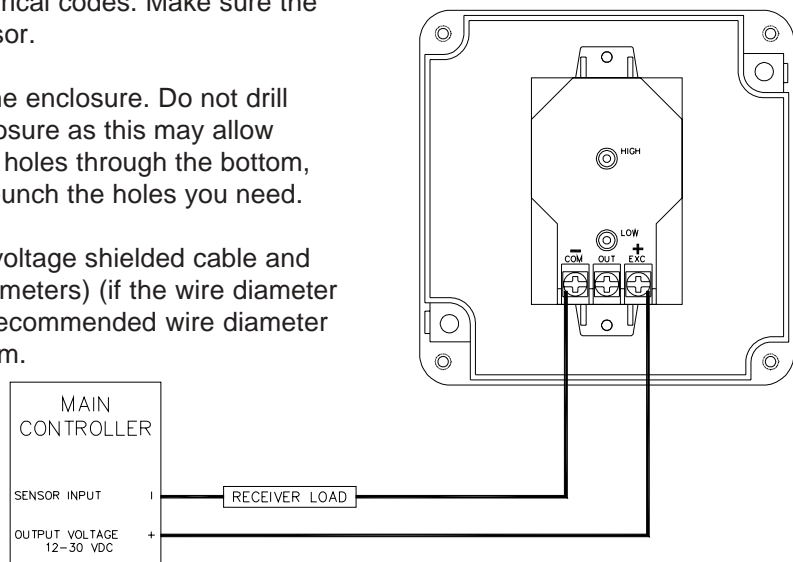

Figure 3
- 1) Wire the sensor to the main controller. Refer to **Figure 3** or wiring diagram from controller. All wiring should be installed in accordance with National, State, and Local electrical codes. Make sure the power supply is suitable for the sensor.